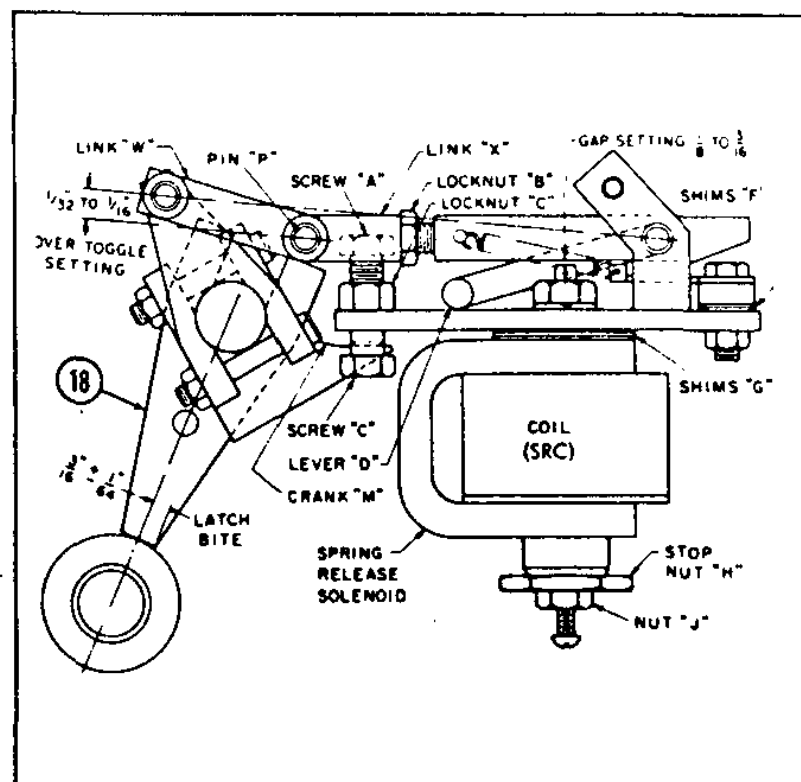
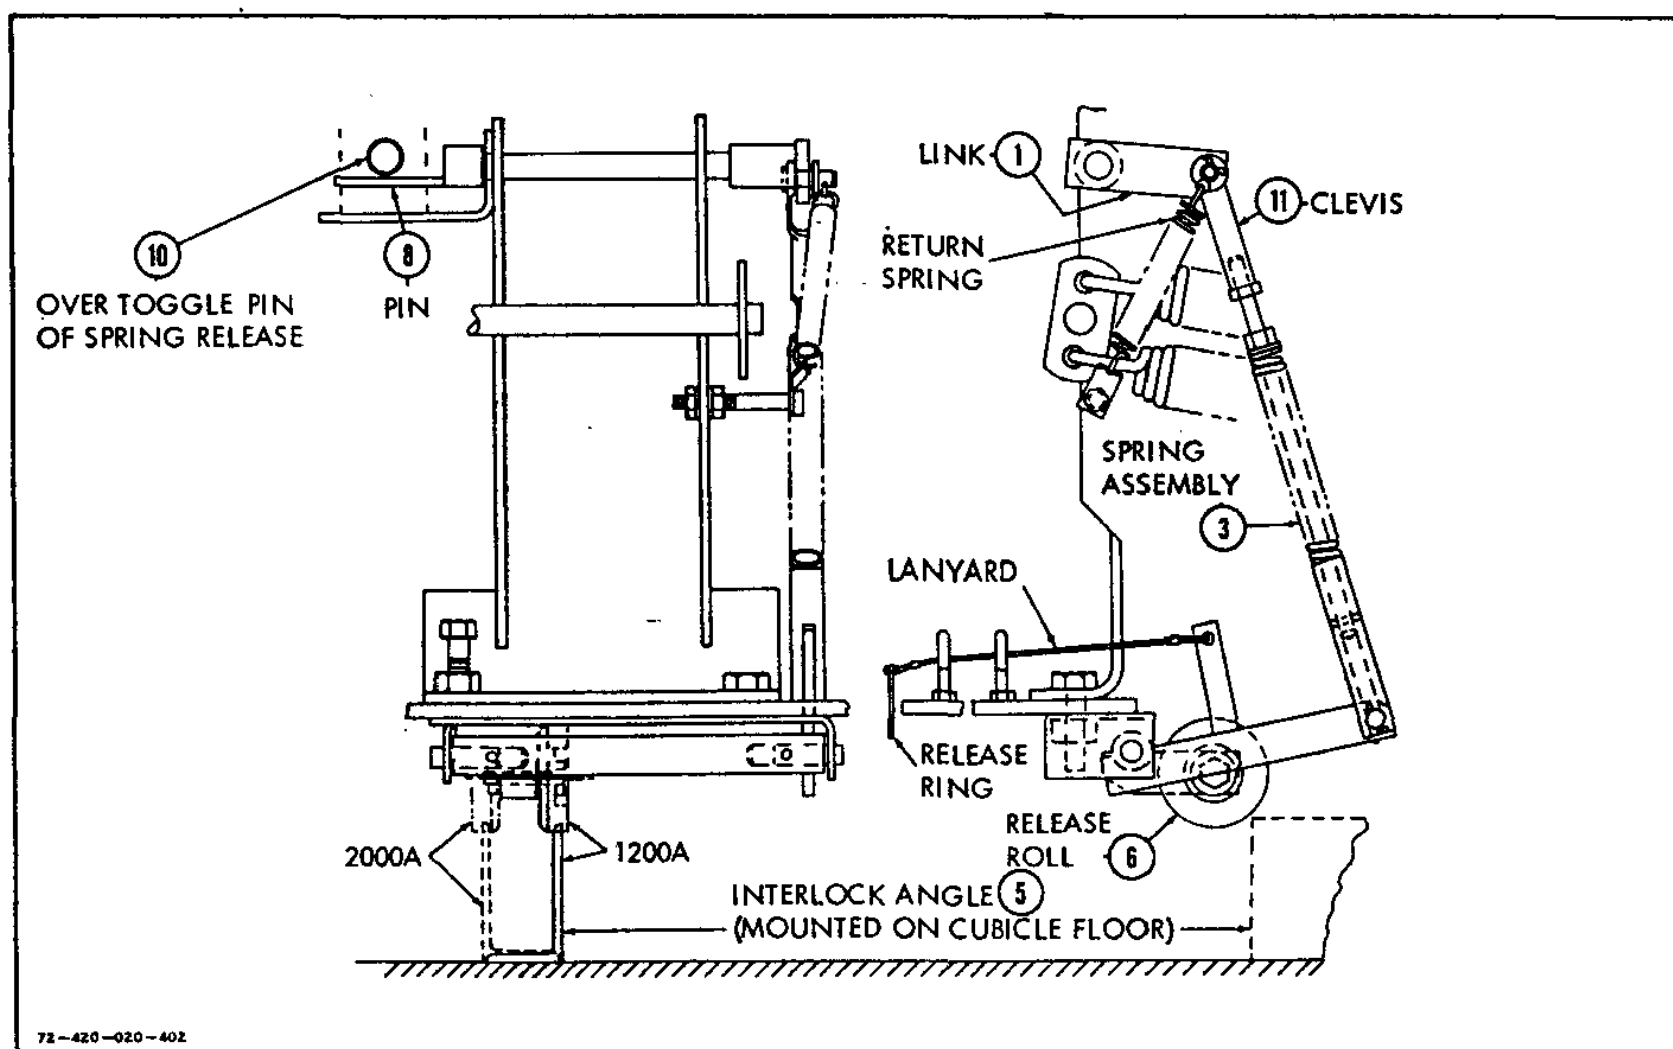

Fig. 18 - Spring release latch.
Fig. 19 - Spring release arrangement for stored energy operator.
To change bite of spring release latch (Fig. 18), disconnect links (W and X) by removing pin (P) and turning screw (A) against crank (M). Check visually to see that bite is 3/16-in., or point of contact at about the center of the latch (18). Lock screw (A) with locknut (C). Adjust link (X), if necessary, so that pin (P) can be easily inserted. To adjust link (X), loosen locknut (B) and rotate the link end to increase or decrease its length.
of the operator will discharge automatically. This is done by release roll (6) (Fig. 19) passing over interlock angle (5), mounted on the cubicle floor. As the release roll passes over the interlock angle, it rises and pushes up on the spring assembly (3). This causes link (1) to rotate pin (8) which raises lever (D) and link (X) (Fig. 18), releasing the closing springs.